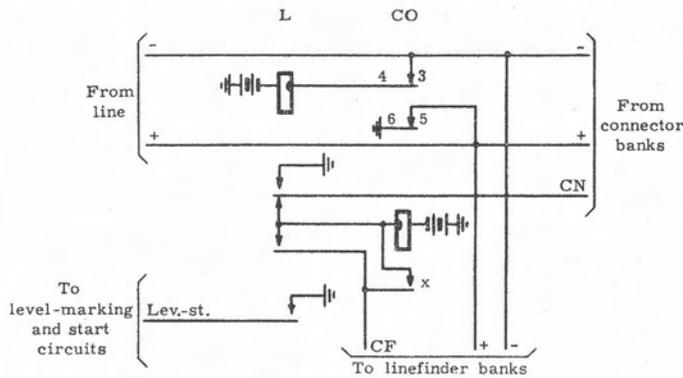

Figure 6. Usual 2-relay line circuit.
A two-relay line circuit is shown in figure 6. When the subscriber lifts his handset to make a call, ground through springs on the cut-off relay (CO), the + line, the subscriber's telephone, the - line, springs of relay CO, and the line relay (L) operates relay L. Relay L grounds connector control lead CN, busying the line to other calls, connects negative battery through relay CO to linefinder control lead CF to mark this line's contacts on the linefinder banks, and grounds lead LEV. ST. To mark the level on which the calling line will be found and to signal the group relays to start a linefinder. The linefinder, connecting to this line, grounds lead CF operating relay CO. Relay CO locks, and removes relay L from across the subscriber's line. Relay L releases, and removes ground from lead LEV. ST. When
4.1 Marking the calling line. Lifting the subscriber's handset operates his line relay (figure 6, ground through relay CO contacts 6-5, + line, subscriber's telephone, - line, and relay CO contacts 3-4). Relay L grounds connector lead CN to busy the line to other calls, connects the cut-off relay to linefinder bank contact CF to mark the line, and grounds the appropriate level-